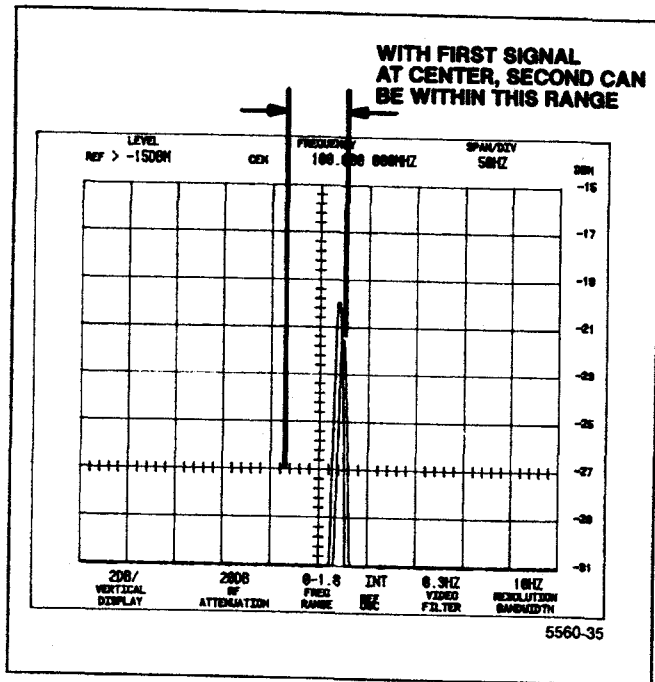

Figure 4-4. Center frequency drift with the 1st LO locked.
h. Check that displacement of the VIEW B peak is no more than 1 division in the positive direction, or 0.72 division in the negative direction. See Figure 4-4.